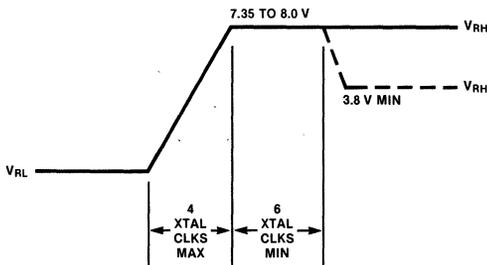
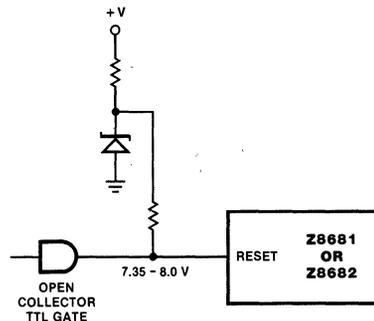

Figure 13. Z8682 RESET Pin Input Waveform
Figure 14. RESET Circuit
**External Interface.** The Z8682 requires a 7.5V positive logic level on the RESET pin for at least 6 clock periods immediately following reset, as shown in Figure 13. The Z8681 requires a 3.8V or higher positive logic level, but is compatible with the Z8682 RESET waveform. Figure 14 shows a simple circuit for generating the 7.5V level.